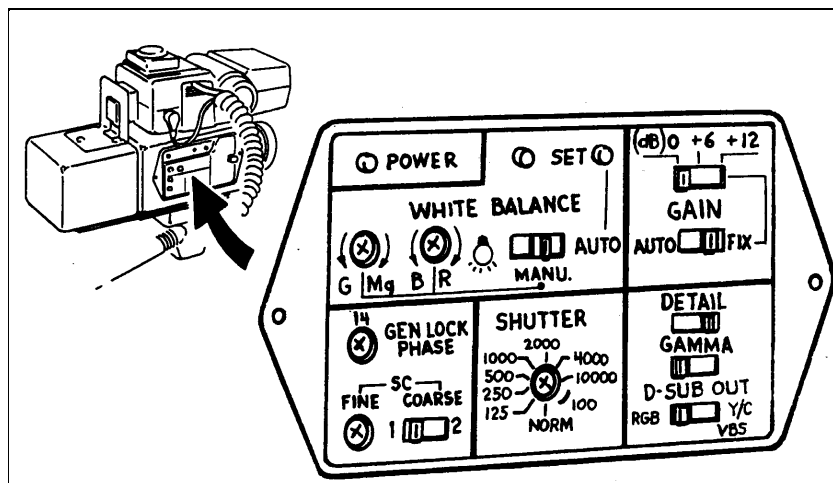

Figure 7-3. Camera Dials and Switches
7. Confirm that the camera switches and dials (Figure 7-3) are set as follows. (If necessary, remove the plastic cover, set the switches and reinstall the cover.)